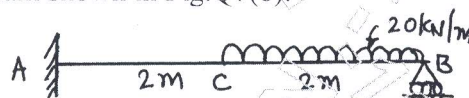

Fig.Q7(b)
- b. Analyze the propped cantilever beam using consistent deformation method. Draw BMD and SFD for the beam shown in Fig.Q7(b).